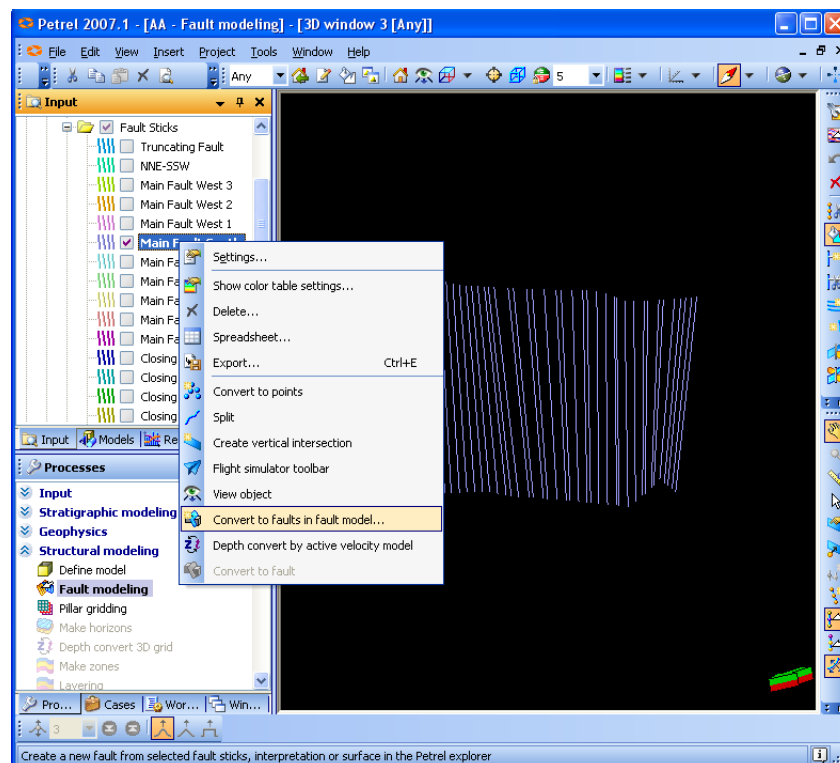

Fig. 11.31: The fault sticks before the conversion process displayed in a 3D window
- a. Find the fault sticks folder. Open the folder and right click on one of the fault sticks. Select **Convert to Faults in Fault Model...** from the pull-down menu. See Fig. 11.31.